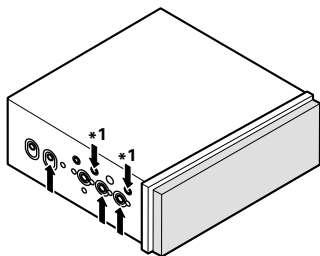

Fig. 15
- **Fastening the unit to the factory radio mounting bracket. (Fig. 15) (Fig. 16) (Fig. 17)**